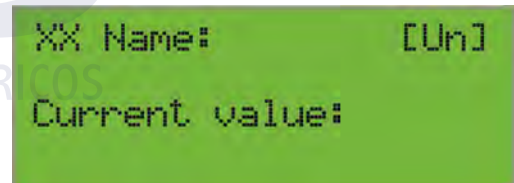

Figure 19: Adjustment visualization screen
- From any screen of measuring parameters, press "Selec" once, the first settings parameter will be displayed in configuration screen (figure 19) as well as its actual value: